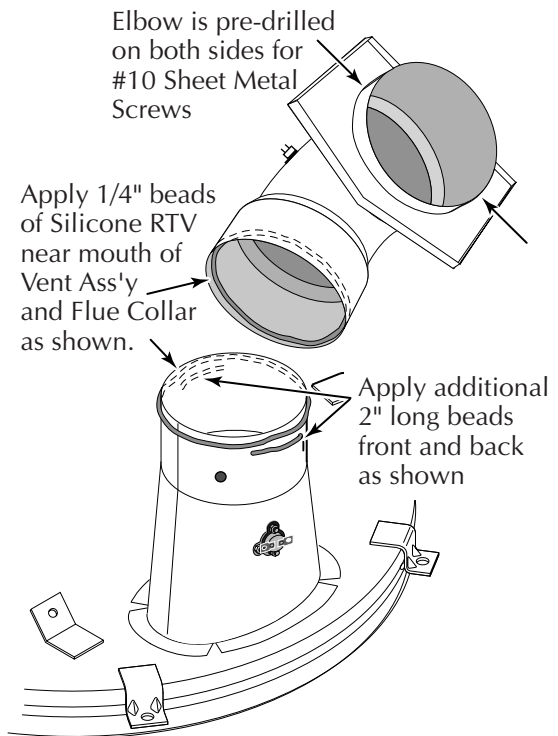

Figure 4-8: Apply Silicone RTV beads as shown. Spread out RTV with a tongue depressor or a rubber gloved finger.
13. The Welded Metal Elbow Assembly is pre-drilled (Figure 4-8) to take #10 sheet metal screws to lock the Appliance Adapter to the Elbow Assembly after it has been RTV glued in place.
15. Use the RTV supplied to apply two continuous 1/4" beads of RTV, one all the way around inside the Elbow, and the other all the way around outside the Combustion Chamber Flue Collar. Apply two additional 1/4" beads about 2" long to the Flue Collar, front and back (see Figure 4-8).